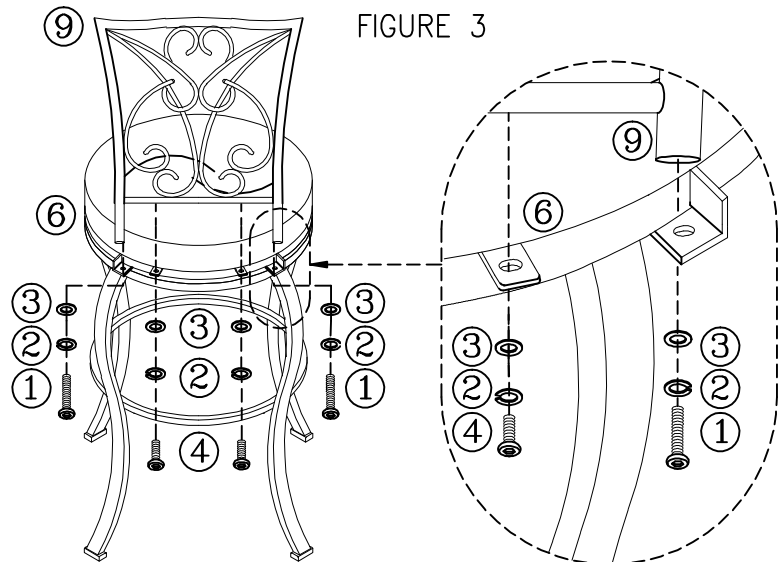

FIGURE 3
- Insert post of back panel (9) into metal bracket on seat (6). SEE FIGURE 3
- Secure back panel (9) to seat bracket with screw (1), spring washer (2) and flat metal washer (3). Tighten screws with Allen wrench (5).
- Secure bottom rail on back panel (9) with screw (4), spring washer (2) and flat metal washer (3). SEE FIGURE 3